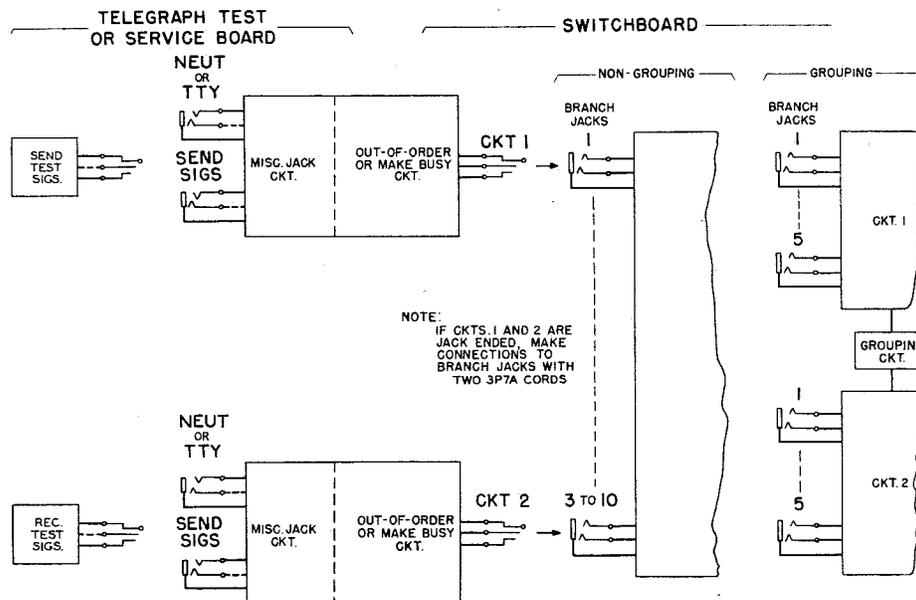

Fig. 3 - Transmission Tests
#### (C) Transmission Tests (Fig. 3)